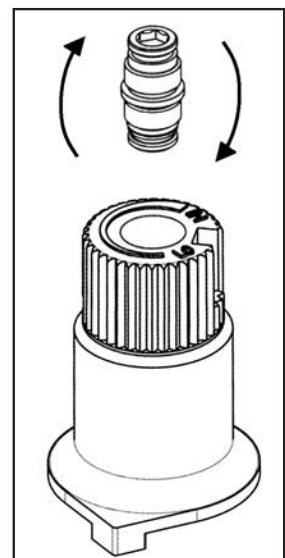

Figure 15: Flip valve screw.
- d) Flip the screw (refer to Figure 15).